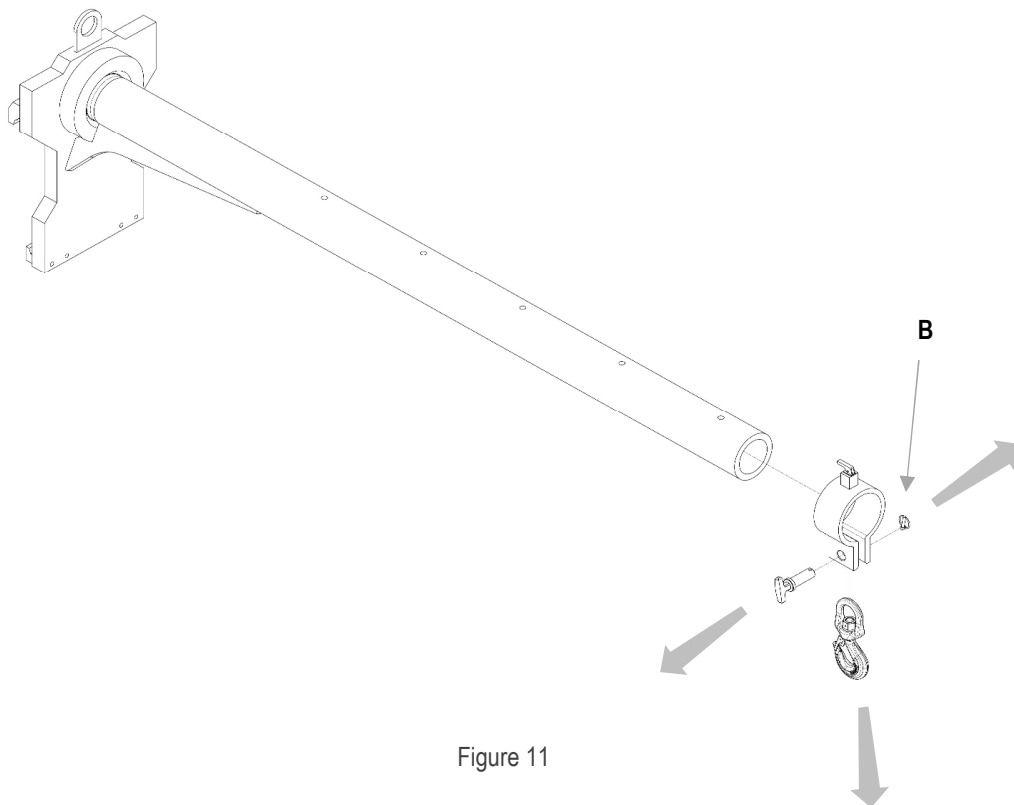

Figure 11
3. Remove the safety cotter pin (**B**), remove the pin and remove the coupling (Figure 11)